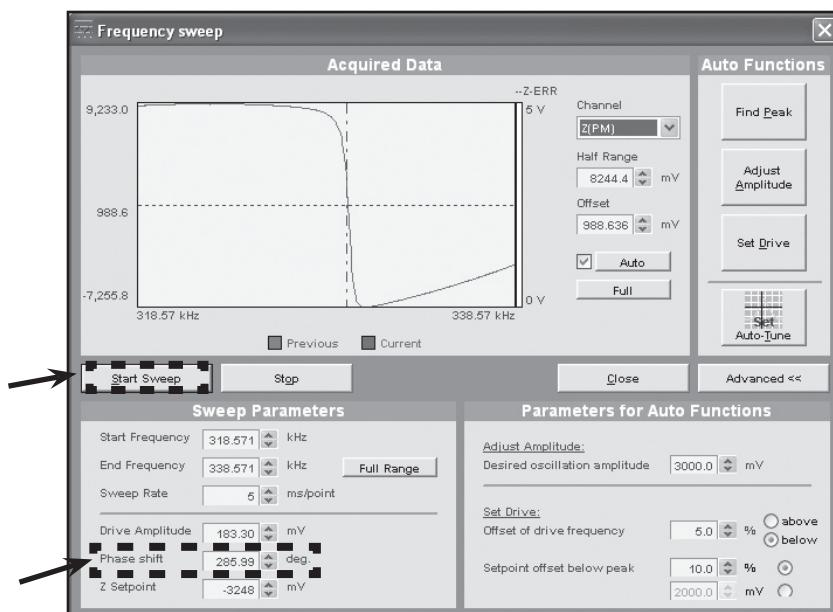

Figure 6.8: Adjusting the Phase Shift
3. Switch the signal channel from Z[ERR] to Z[PM]. Shift the initial curve of Z[PM] by adjusting the Phase Shift so that the green Z[PM] curve crosses the point where the dotted black vertical line and the dotted black horizontal line intersect. The steep negative slope should pass through this intersection point, as shown in Figure 6.8.
4. After determining the desired phase shift in Step 3, (the value of phase shift can be any value from 0 to 360), click the Start Sweep button to update the signal. Once the phase shift trace looks like that shown in Figure 6.8, click the Set Drive button. This initiates the Setpoint calculation using the one newly determined phase shift.